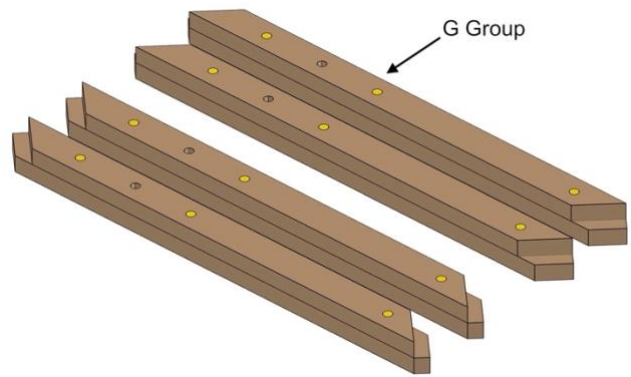

Fig. 20
- Fig. 20 shows the completed process for all the G pieces.
- Do not continue unless your parts look EXACTLY like Fig. 20.